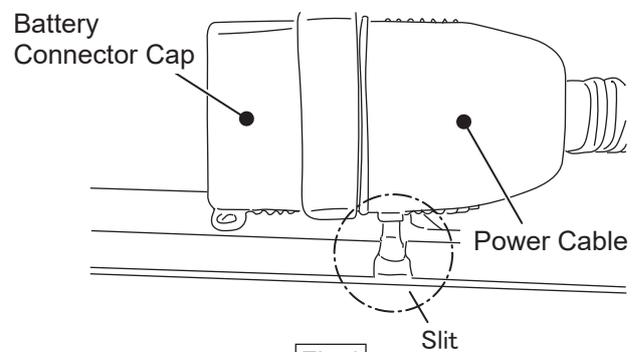

Fig.4
6. Remove the battery connector cap from the power cable.(Fig.4)
3. Attach the battery connector cap to the power cable.(Fig.4)